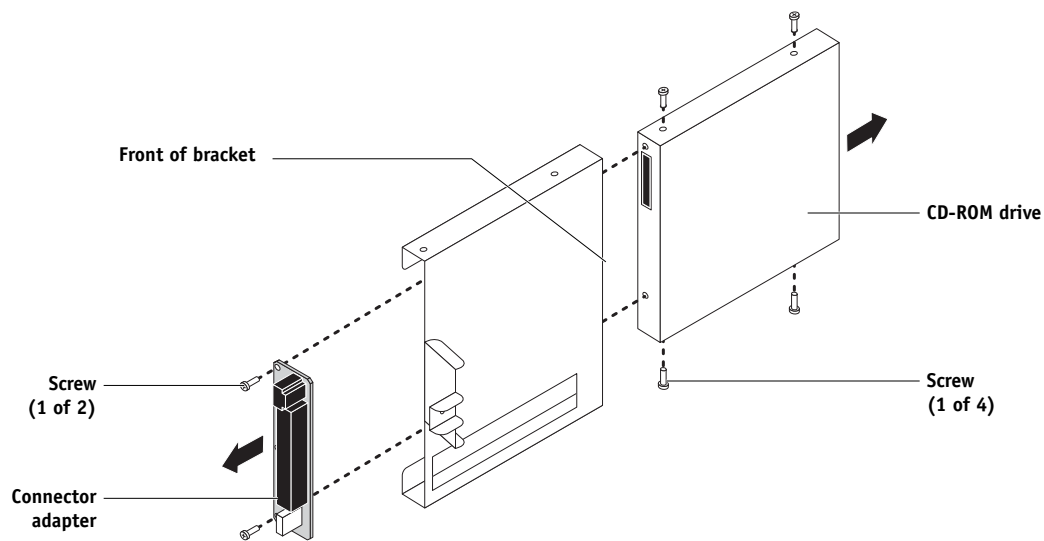

FIGURE 4-31 Removing the CD-ROM drive from the bracket
1. **Remove the two screws that attach the connector adapter to the CD-ROM drive, and then remove the connector adapter from the CD-ROM drive (see Figure 4-31).**
1. **With the bracket outside the chassis, slide the replacement CD-ROM drive into the bracket (see Figure 4-31 on page 4-50).**
2. **Replace the four screws that attach the CD-ROM drive to the bracket (see Figure 4-31).**
4. **Replace the two screws that attach the connector adapter to the CD-ROM drive (see Figure 4-31).**